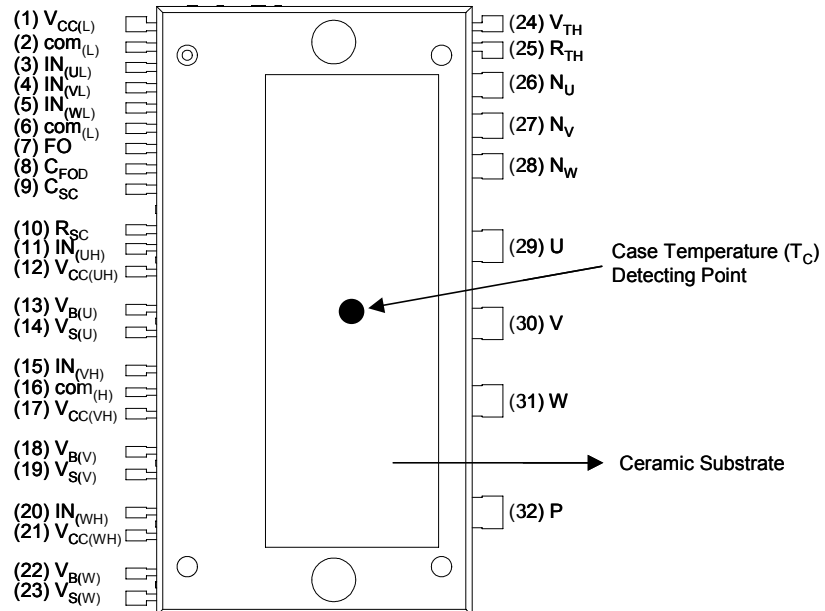

Fig. 2.
- For the measurement point of case temperature ( $T_C$ ), please refer to Fig. 2.